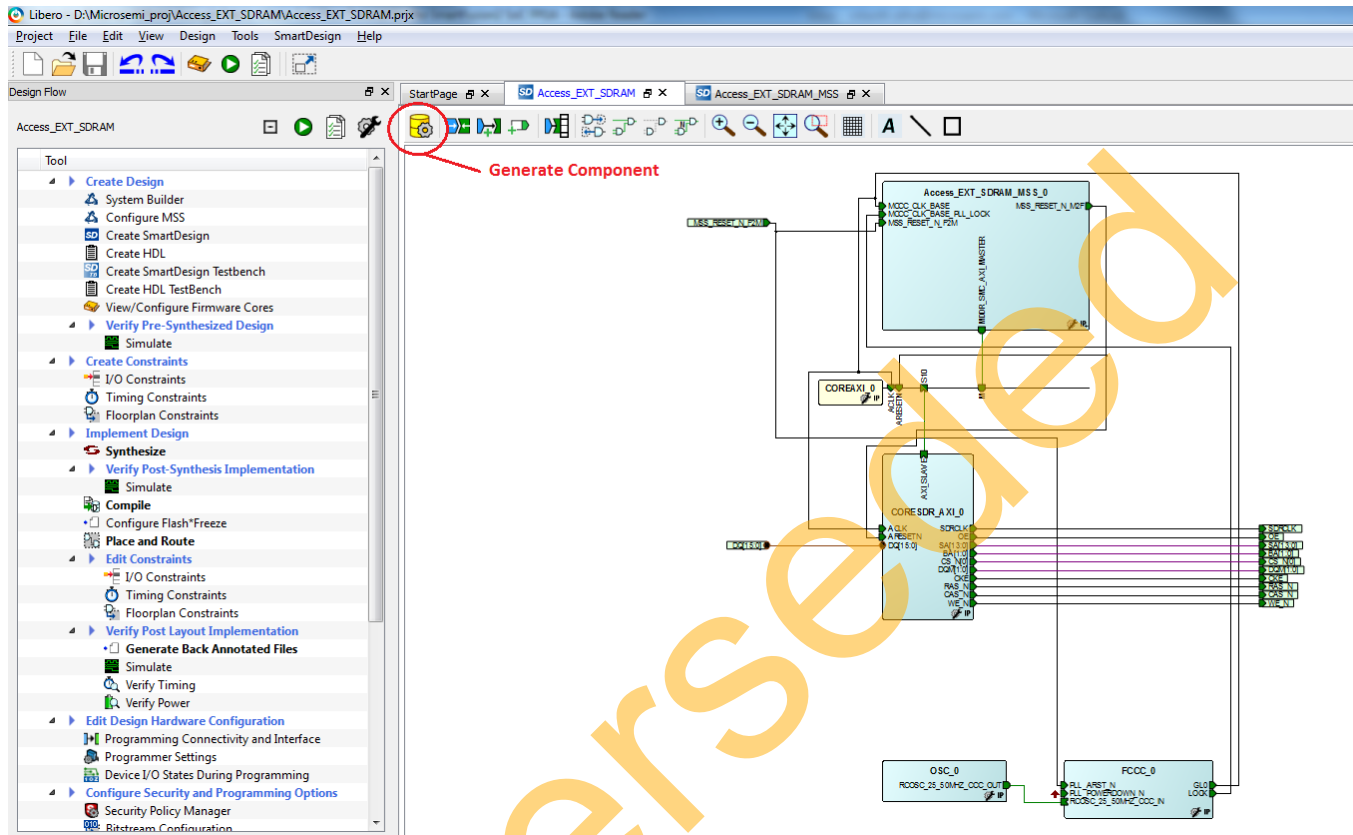

Figure 24. Generating the MSS Component
1. Select **Access_EXT_SDRAM** tab on the **SmartDesign** canvas and click **Generate Component** on the SmartDesign pane, as shown in Figure 24. Or you can select from **SmartDesign > Generate Component**.